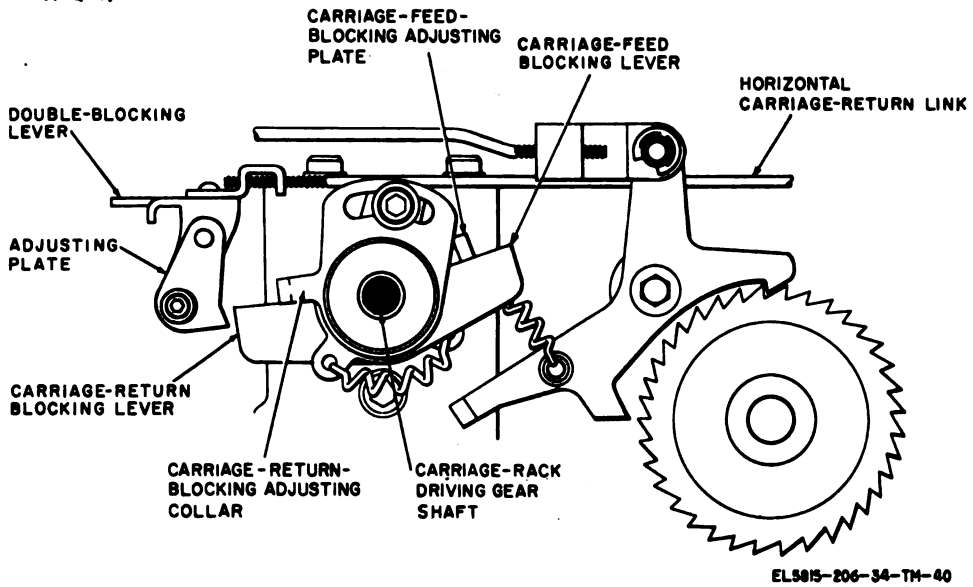

Figure 2-40. Carriage-return blocking mechanism (TT-4B/TG, TT-4C/TG, TT-335/TG, TT-537/G, TT-698A/TG, and TT-698B/TG ).
*g. Carriage-Return Blocking Feature.* The carriage-return blocking lever is used to prevent engagement of the carriage-return clutch when the carriage is at the left hand margin and a carriage return code group is received. The carriage-return blocking lever is mounted on, and rotates with, the carriage-rack driving gear shaft (fig. 2-40 and 2-41). When the carriage is at the left-hand margin, the blocking lever blocks movement of the double blocking lever of the TT-4B/TG, TT-4C/TG, TT-335/TG, TT-698A/TG, and TT-698B/TG (fig. 2-40) and the carriage-return operating lever of the TT-4A/TG and TT-698/TG (fig. 2-41). Under these conditions, the carriage-return-clutch drum (fig. 2-34 and 2-35) does not move into engagement with the carriage-return clutch disk.